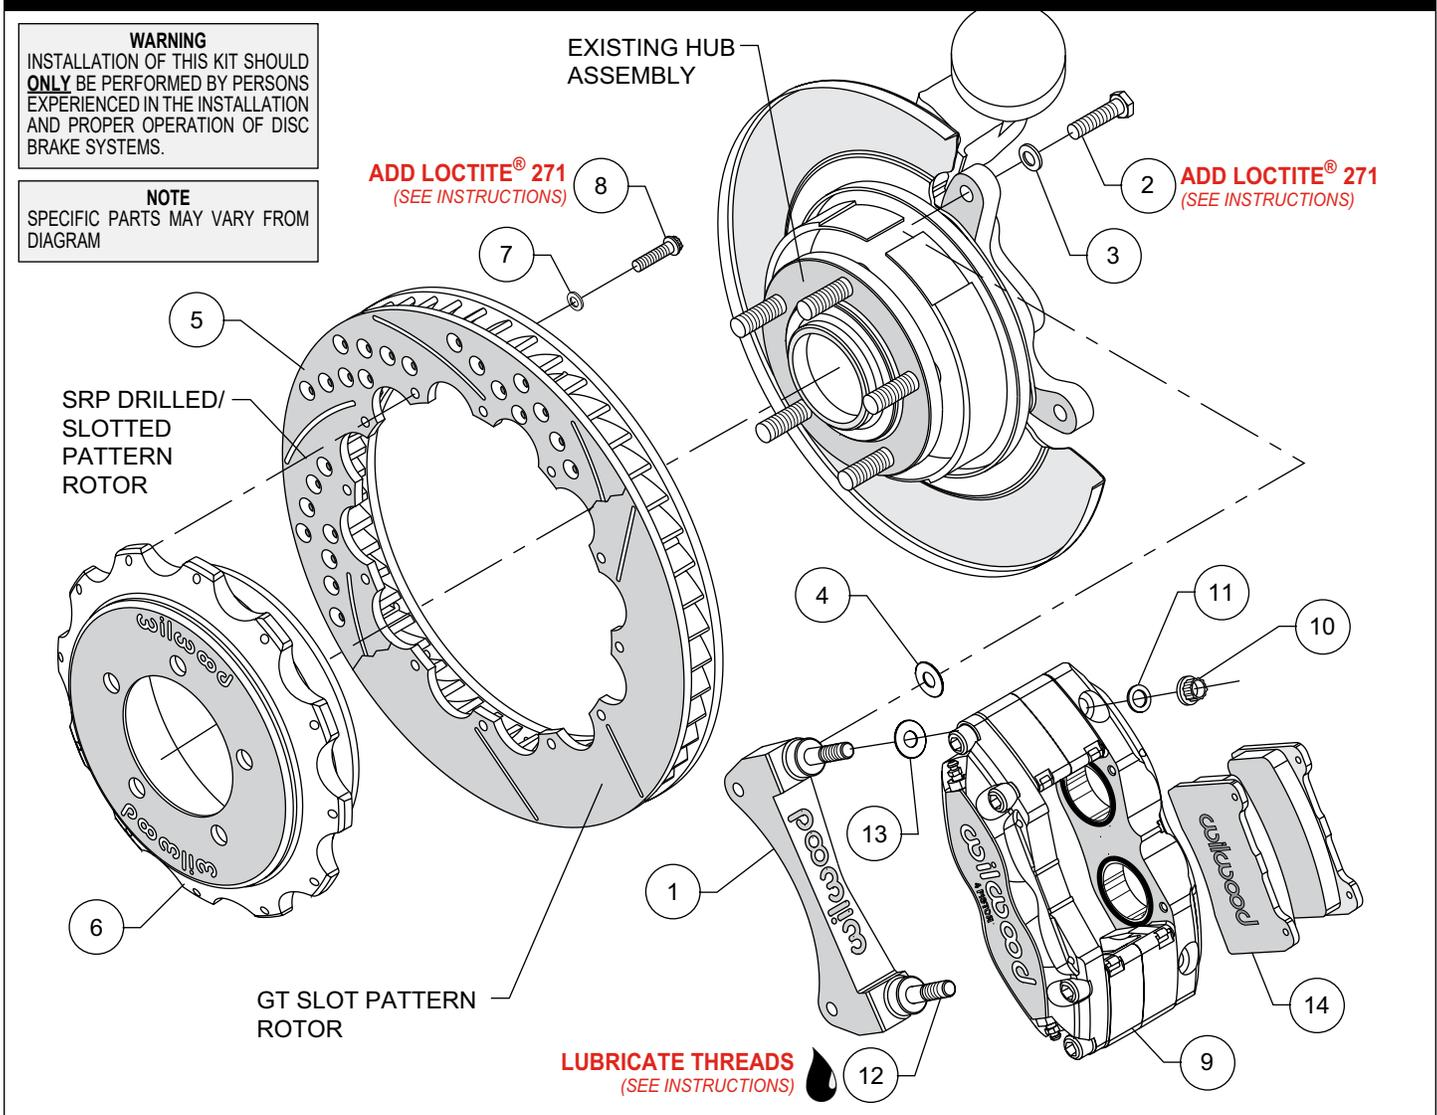
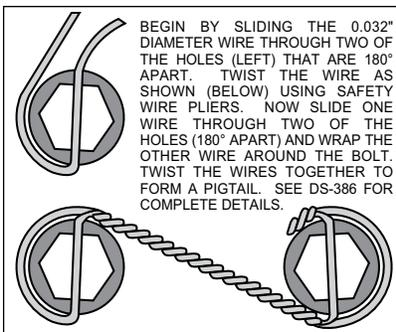

Figure 1. Typical Installation Configuration
Figure 3. Safety Wire Diagram
NOTE: Numbers in parenthesis refer to the parts list and Figure 1 on the preceding pages.
•Assemble the rotor (5) to the hat (6) with the bolts (8) and washers (7) as indicated in the configuration pictured in Figure 1. Apply red *Loctite*® 271 to the bolt threads and torque to 140 **in-lb** using a criss-cross pattern. For an added measure of security, the bolts may be safety wired using standard 0.032 inch diameter stainless steel safety wire as shown in Figure 3. Please refer to Wilwood's data sheet DS-386 (available at www.wilwood.com/Pdf/DataSheets/ds386.pdf) for complete safety wire installation instructions.
•Install one shim (13) over each stud (12) on the radial mount bracket (1). Slide the caliper (9) in place over the studs and rotor. Lubricate caliper mounting studs and nuts with lightweight oil. Install the washer (11) and lock nut (10) to hold the caliper in place. Snug the lock nuts (10) and check that the rotor (5) is centered in the caliper (9). Add or subtract .020" shims (4) as necessary between the caliper mount bracket (1) and the caliper mount bosses on the upright assembly to center the caliper.
•Remove the quick-clip pad retainer from the caliper. Slide the brake pads (14) into place. They should install easily without interference. Check that the outside radius of the brake pad is aligned with the outside radius of the rotor. Add or subtract shims (13) between the caliper and mount bracket to gain the proper alignment. Reinstall the quick-clip pad retainer.
•Once all clearances have been checked, remove the wheel, caliper, hat, and rotor from the axle flange. Secure the caliper mounting bracket (1) to the OEM caliper mounting ears using red *Loctite*® 271. Torque the bolts to 35 ft-lbs. Reinstall the hat and rotor assembly and again use several lug nuts to hold it in place. Reinstall the caliper, torque the caliper nuts (10) to 30 ft-lbs.